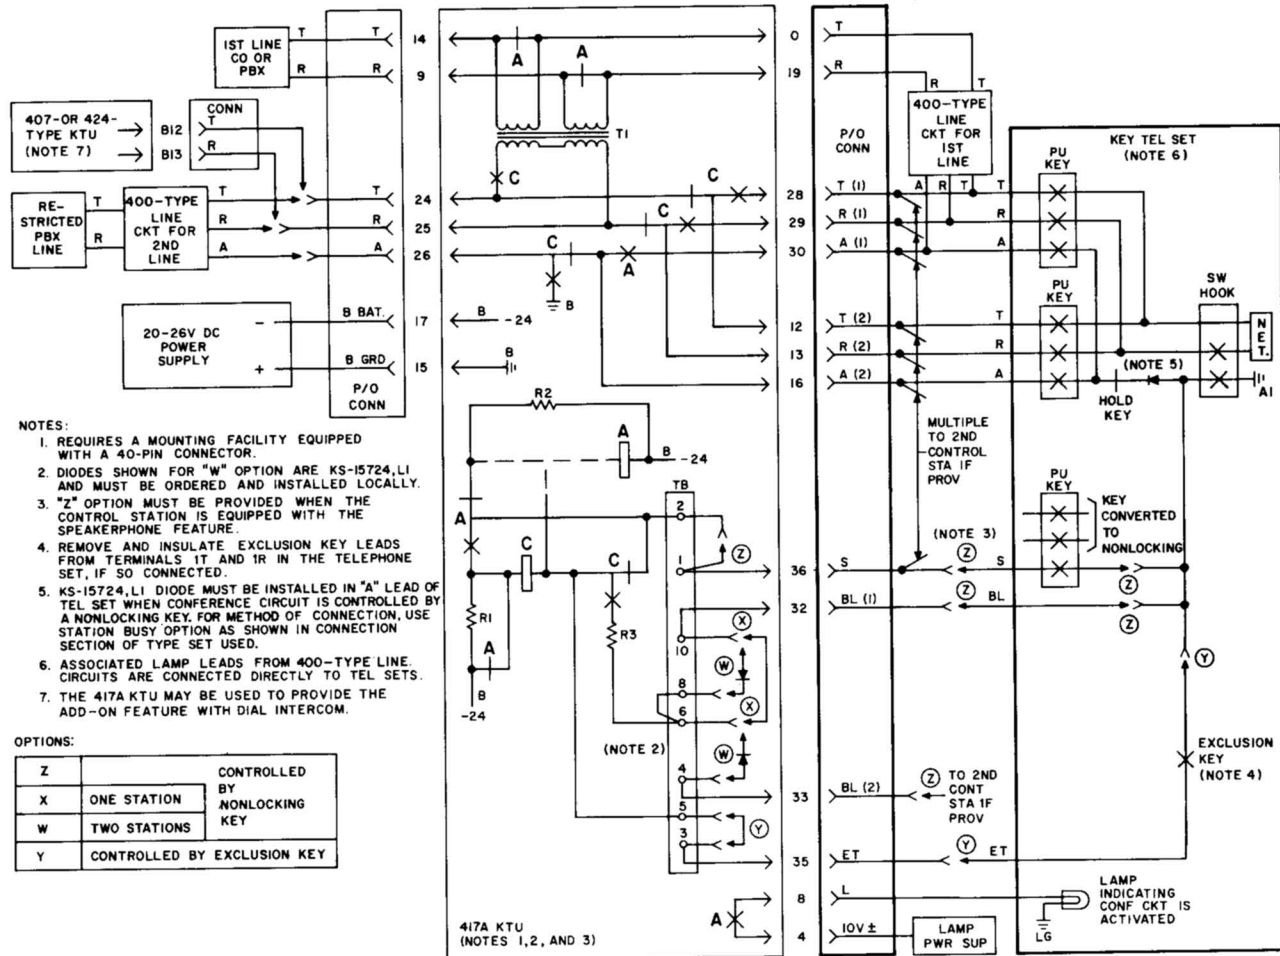

Fig. 6—Condensed Functional Schematic of 417A KTU (Add-On Conference Circuit)
2.04 The 417A KTU (Fig. 6) is a 4-inch, 40-contact unit that provides for bridging of two lines for a 3-way conference in the following arrangements: